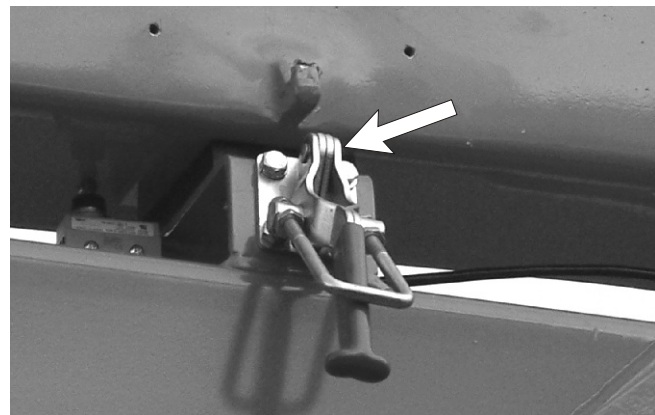

Figure 9.6 - Boom Restraining Latch
7. Ensure that the boom restraining latch is also undone (see Figure 9.6).